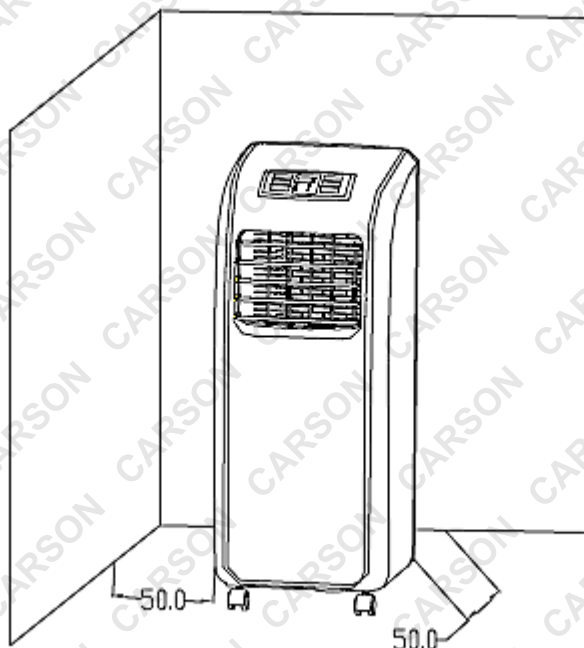

Figure 9
1. Move the unit with the heat exhaust hose assembly installed beside the window and keep the unit at least 50cm away from walls or other objects. (As shown in Figure 9).